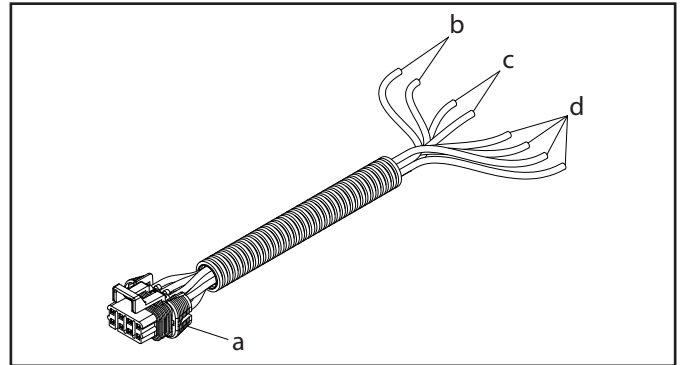

Figure 1: Sprayer end wiring harness
1. The sprayer end wiring harness is made up of 8 wires with a Metripack female terminal (a) on the end that connects to the output wiring harness, and bare wires on the other end (Figure 1).
2. The bare wires are: the control valve power and ground wires (b), the regulating valve power and ground wires (c), and the control valve signal wires (d) (Figure 1).